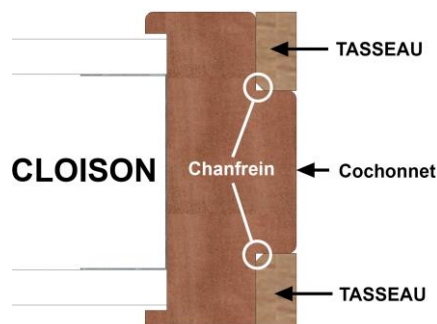

Figure 2
5.3.1.2. CAS AVEC FEUILLURE ET CONTRE FEUILLURE SUR MONTANTS SEULEMENT (SECTION MINI 118x56) - figure 2 –